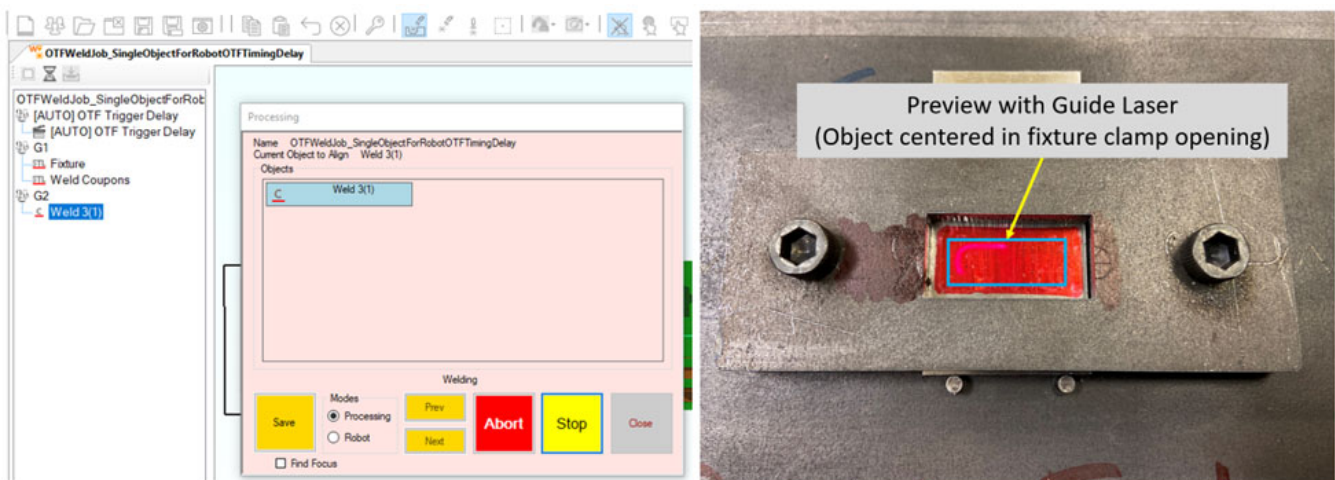

Figure 312: Placing a Process Object Using the Guide Laser
- In this example, a staple shape weld is centered in the opening of a fixture clamp. See Figure 312 (below).